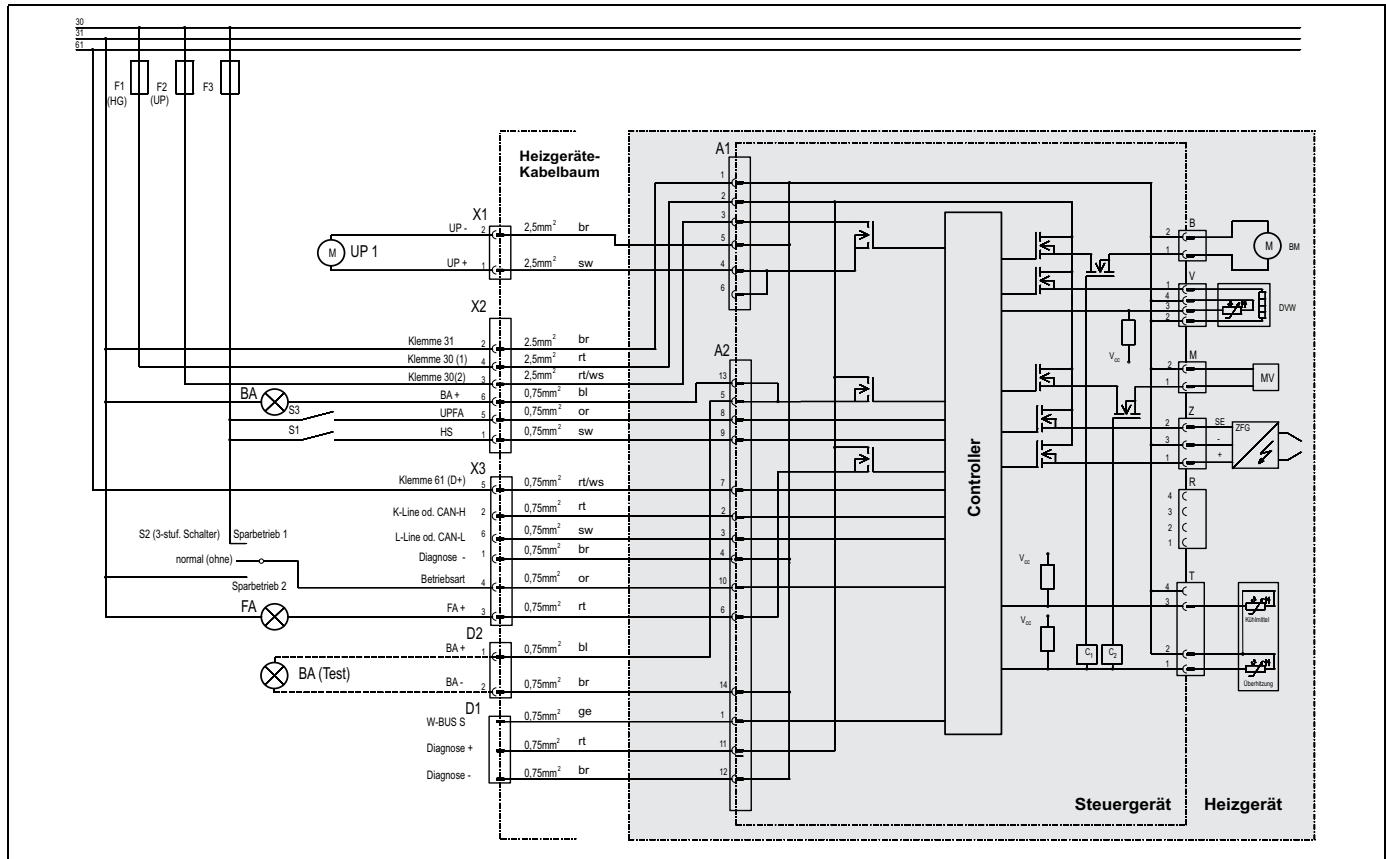
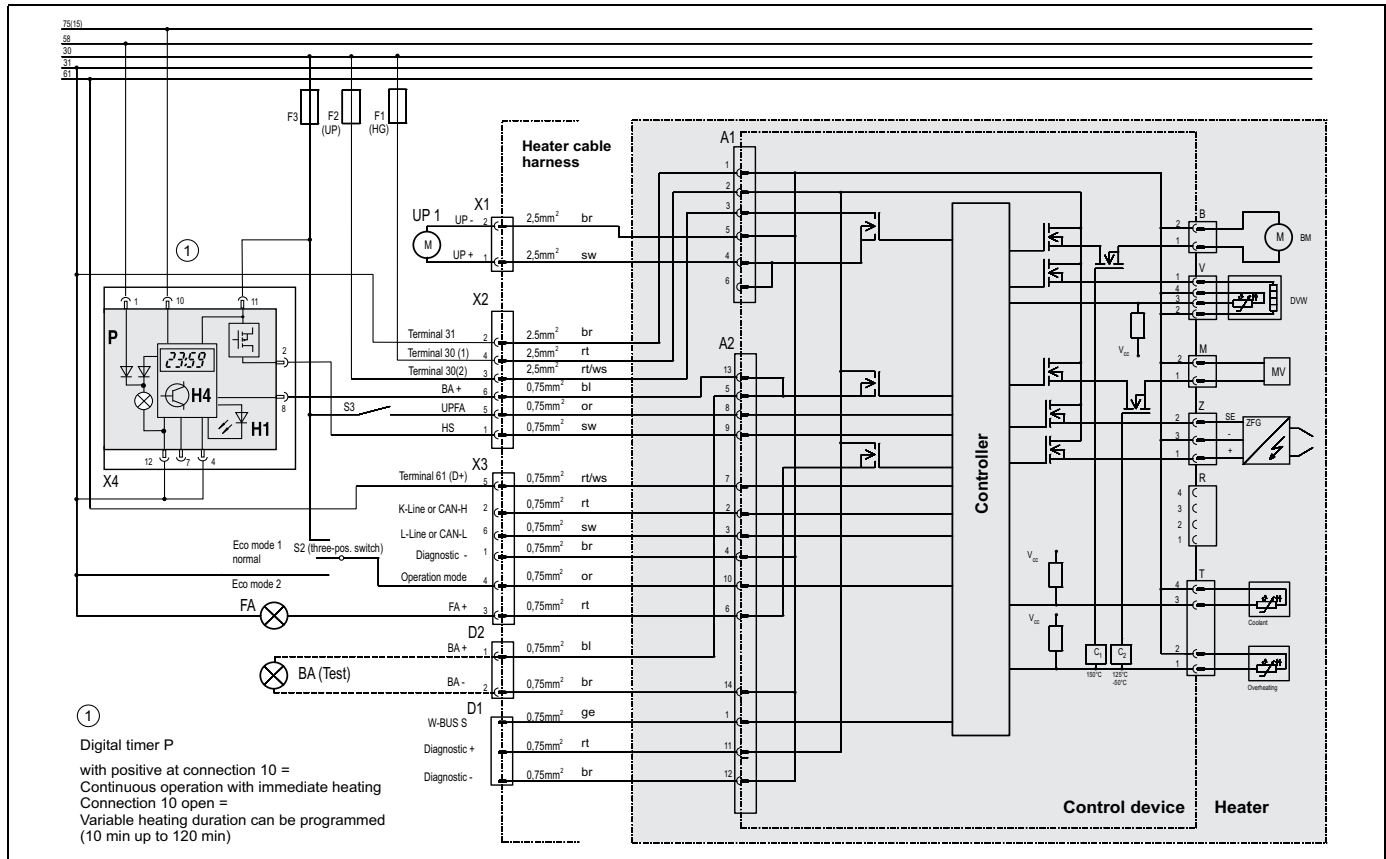

Fig. 20: System wiring diagram for Thermo S heaters, for legend see page 53.
Fig. 21: System wiring diagram for Thermo S heaters, with standard timer, for legend see page 53.
The hook-up of the heaters is to be performed acc. to system wiring diagram shown in Figure 20 or Figure 21.
- Switch, see system wiring diagram Figure 20
- Timer, see system wiring diagram Figure 21
The connection of the economy mode switch is shown in the system wiring diagram, Figures 20 and 21.